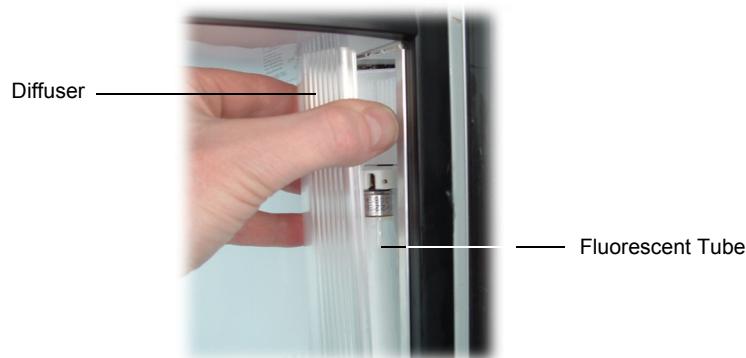

Figure 10: Replacing the Fluorescent Tube
2. Remove the side light diffuser, by compressing the back section of the diffuser until it disengages from the aluminium housing and then push the diffuser back (see Figure 10 below).